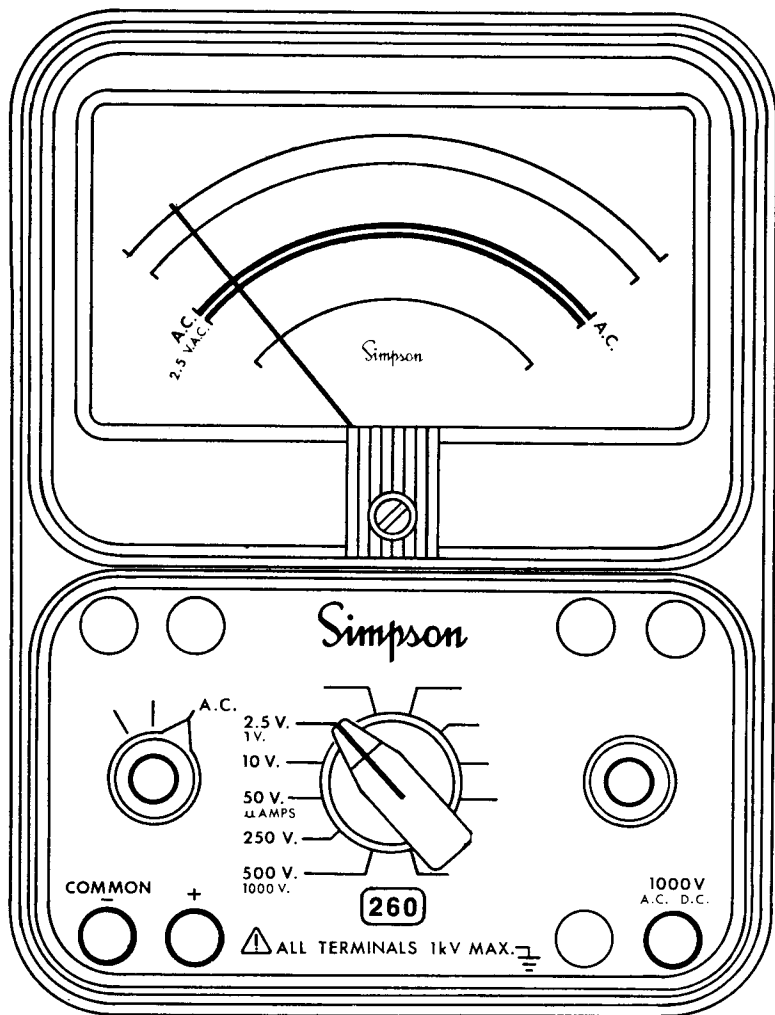

FIGURE 4-3. JACKS AND SWITCH POSITIONS FOR MEASURING AC VOLTAGE
- a. Set the function switch at AC (Figure 4-3).